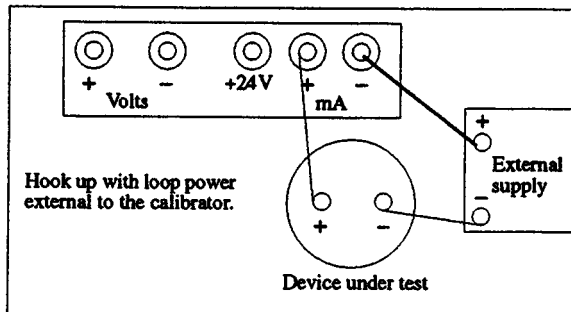

Figure 1. Loop power is supplied by a power supply in the loop. The calibrator is hooked in series with the remainder of the loop where applicable.
- 4) Electrical connections for milliamps are shown in Figures 1 and 2.